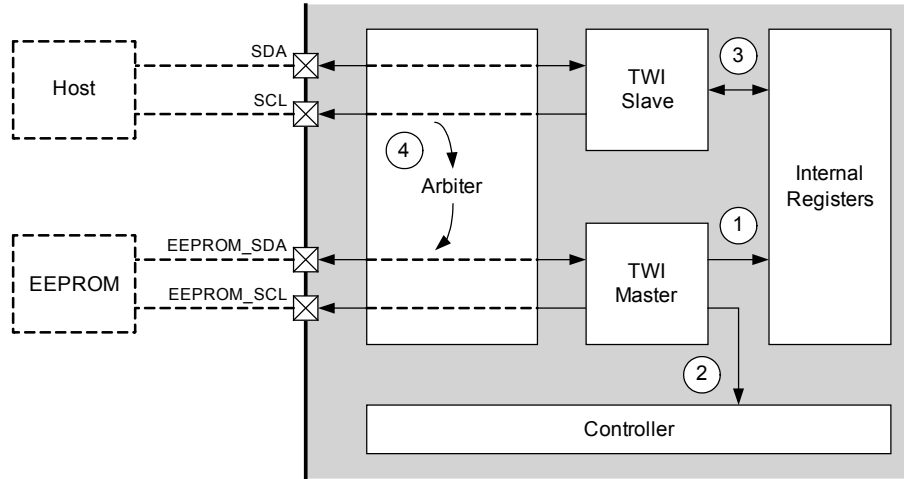

Figure 18 - Serial interfaces to internal registers
- If the register is implemented in EEPROM only (addresses 00h to BFh) then the transaction is forwarded to the EEPROM via path 4 in figure 18. There is a direct combinational logic path between the slave and master interfaces which makes the PHY1078-01 transparent when transactions from the host are forwarded to the EEPROM.